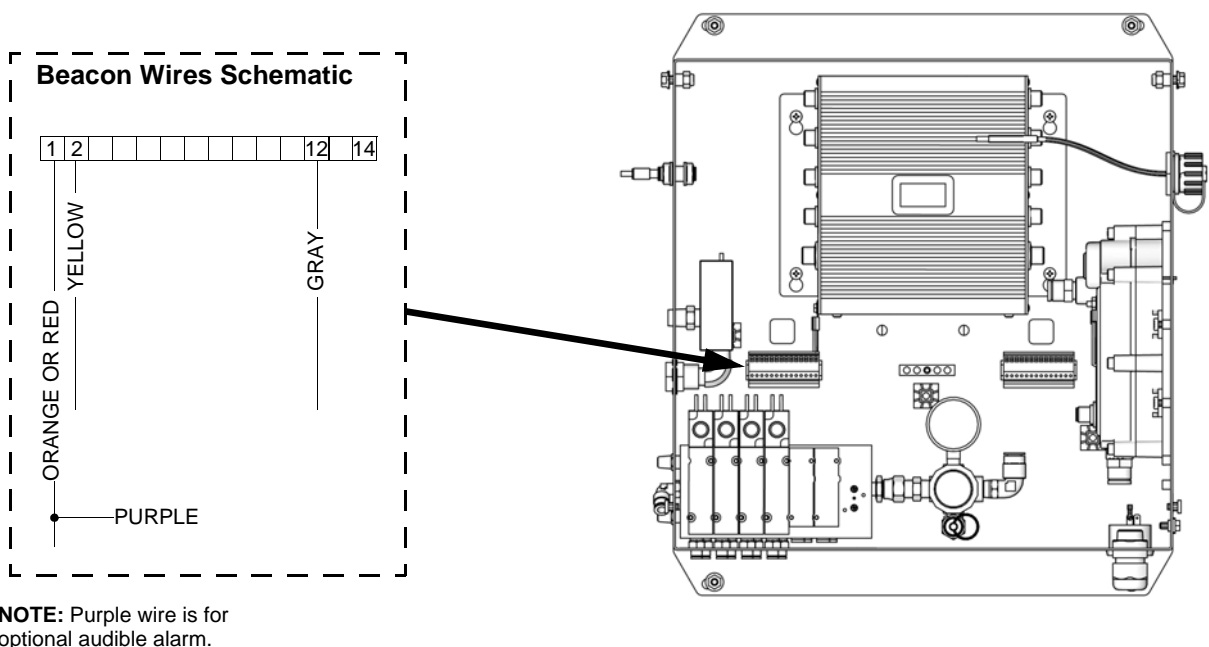

FIG. 3. Beacon Connections in Control Box, ProMix 2KE
1. Disconnect the existing alarm from pins 1 and 2 on the terminal strip. See FIG. 3.
2. Mount the beacon near the control box and secure with the jam nut (N) and washer. Feed the wires into the box.